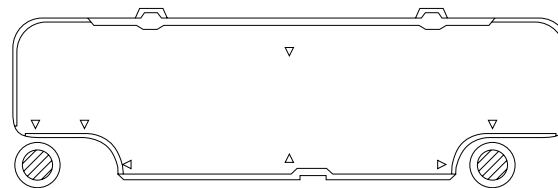

Fig. 7a
- (1) Place the rear panel from the indoor unit on the wall at the location selected. Make sure the panel is horizontal, using a carpenter's level or tape measure to measure down from the ceiling. Wait until after cutting the hole before attaching the rear panel to the wall.
- (2) Determine which side of the unit you should make the hole for tubing and wiring. (Figs. 7a & b)
In the case of left-rear tubing, use the outside ∇ mark for precise placement of the hose outlet. (Figs. 7a & b)